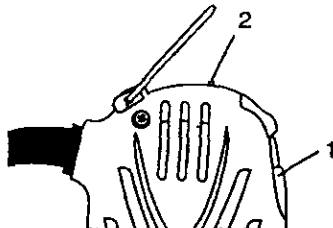

Fig. 1
This Cutting Tool is equipped with a sliding ON / OFF switch (1) located on the side of the tool and a two speed control switch (2) located on top of the tool (see Fig. 1).